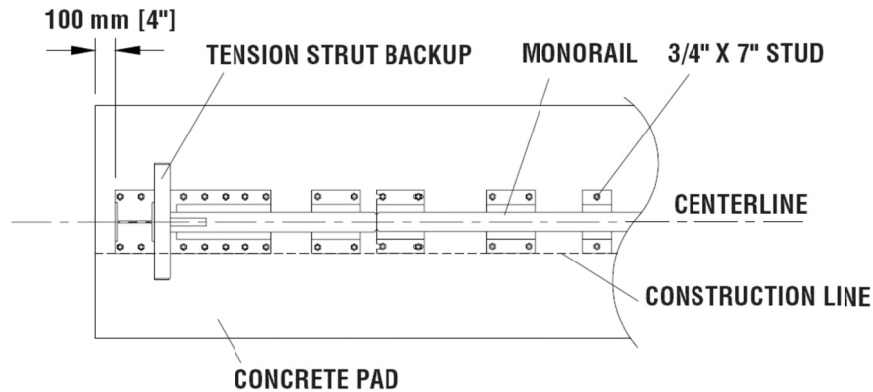

Figure 20
B) Monorail Placement for Tension Strut Backup (Figure 20)